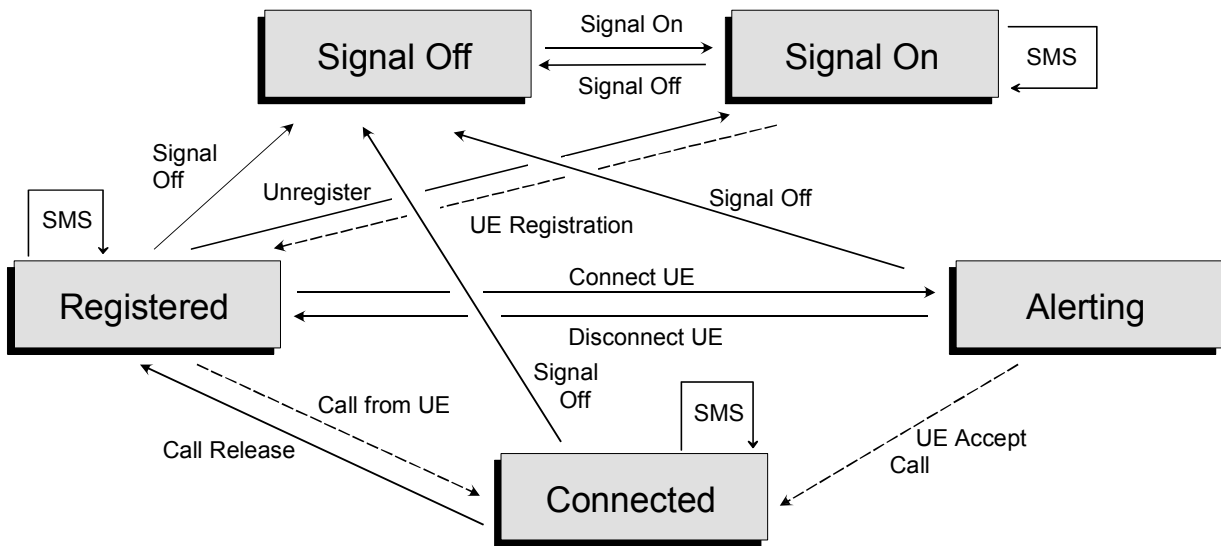

Fig. 4-83 Signalling states of the CMU: Connection with Alerting
A number of control commands which can be initiated both by the CMU (*Call to UE, UE Terminating Call*) and by the UE (*Call from UE, UE Originated Call*) switch between these states (the dashed lines in Fig. 4-83 denote processes initiated by the UE).
The tab *Connection (Signal Off)* is opened when the function group *WCDMA UE Signalling (3GPP/FDD)* is selected, or if the WCDMA signal is switched off (*Signal Off* softkey) while the system is in another signalling state. It is replaced by the *Connection (Signal On)* tab after the WCDMA signal (*BS Signal*) of the CMU is switched on so that the CMU emulates a UTRAN cell (softkey *Signal On*, Fig. 4-83).
The tab *Connection (Signal On)* is opened after the WCDMA signal (*BS Signal*) of the CMU is switched on so that the CMU emulates a UTRAN cell (softkey *Signal On* in the tab *Connection (Signal On)*) or if the CMU forces a previously registered UE to initiate a new registration (softkey *Unregister* in the tab *Connection (Registered)*). It is replaced by the *Connection (Registered)* tab after the UE initiates a registration (see Fig. 4-83).
- Establishing a connection to the UE (*Connect UE (CS)* -> state *Alerting*)
The tab *Connection (Registered)* is opened when a successful RRC connection (in which case a registration/location update is considered as being already performed) is released (*Disconnect UE (CS)* softkey in the *Alerting* or in the *Connected* state, UE connection release, loss of radio link) or when a registration is initiated by the UE. It is replaced by the *Connection (Alerting)* tab if the CMU initiates a connection to the UE (softkey *Connect UE (CS)*), or by the *Connection (Connected)* tab if the UE initiates a connection to the CMU, see Fig. 4-83 on page 4.191.
- *Disconnect UE (CS)* while keeping the WCDMA signal (*BS Signal*) switched on (→ *Registered*)
The tab *Connection (Alerting)* is opened while the UE is ringing during a connection setup (*Connect UE (CS)* softkey in the *Signal On* or in the *Registered* state). It is replaced by the *Connection (Connected)* tab when the UE accepts the connection (is picked up), or by the *Connection (Registered)* tab if the connection is released (*Disconnect UE (CS)* softkey, UE connection release), see Fig. 4-83.